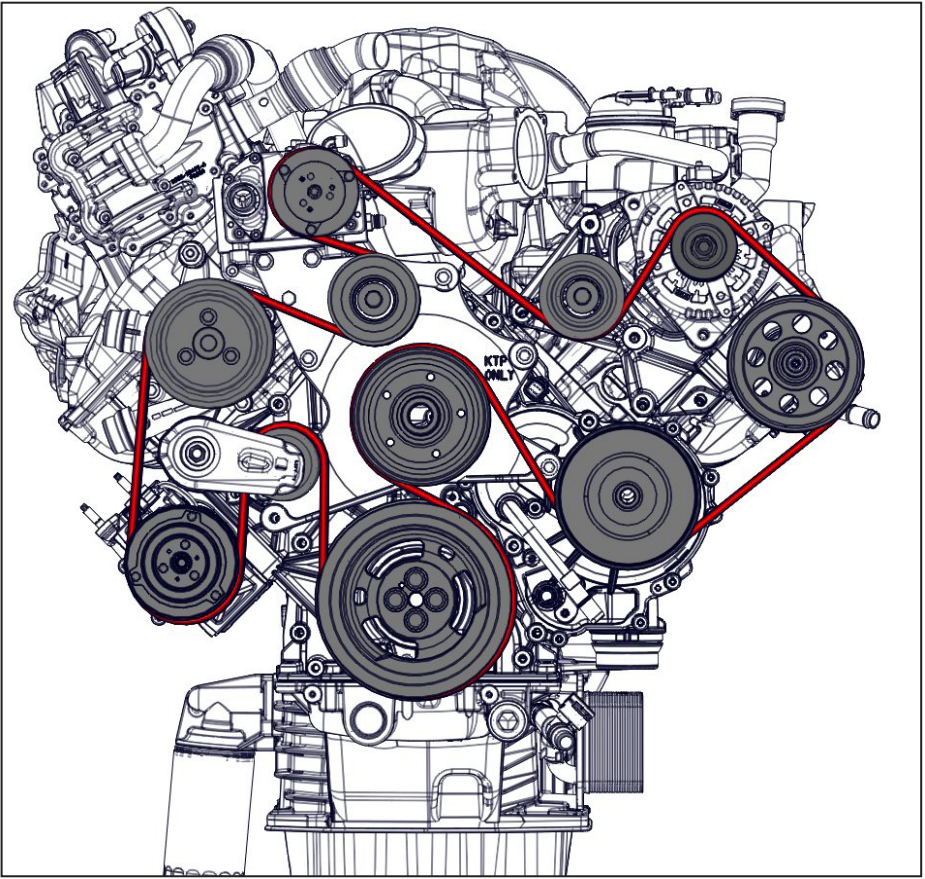

Figure 16 — Belt routing
- Install and tension the VMAC supplied FEAD belt (Figure 16).